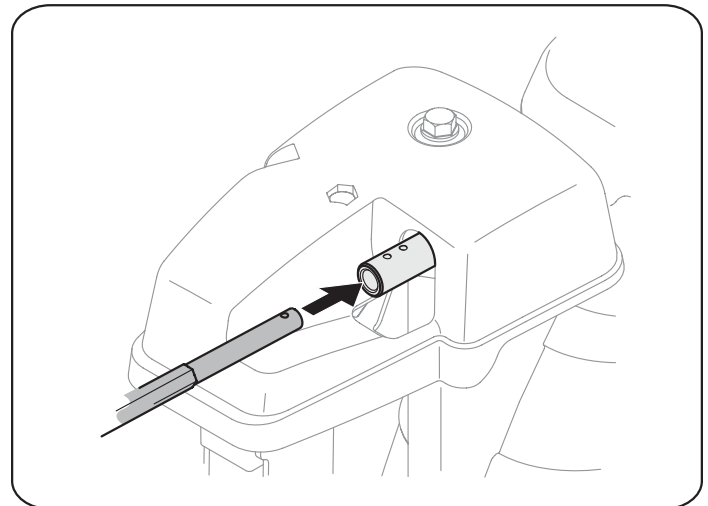

Figure 3B
2. Insert round end of the chute control rod (hole pointing upward) as far as possible into chute control assembly. See Figure 3B.